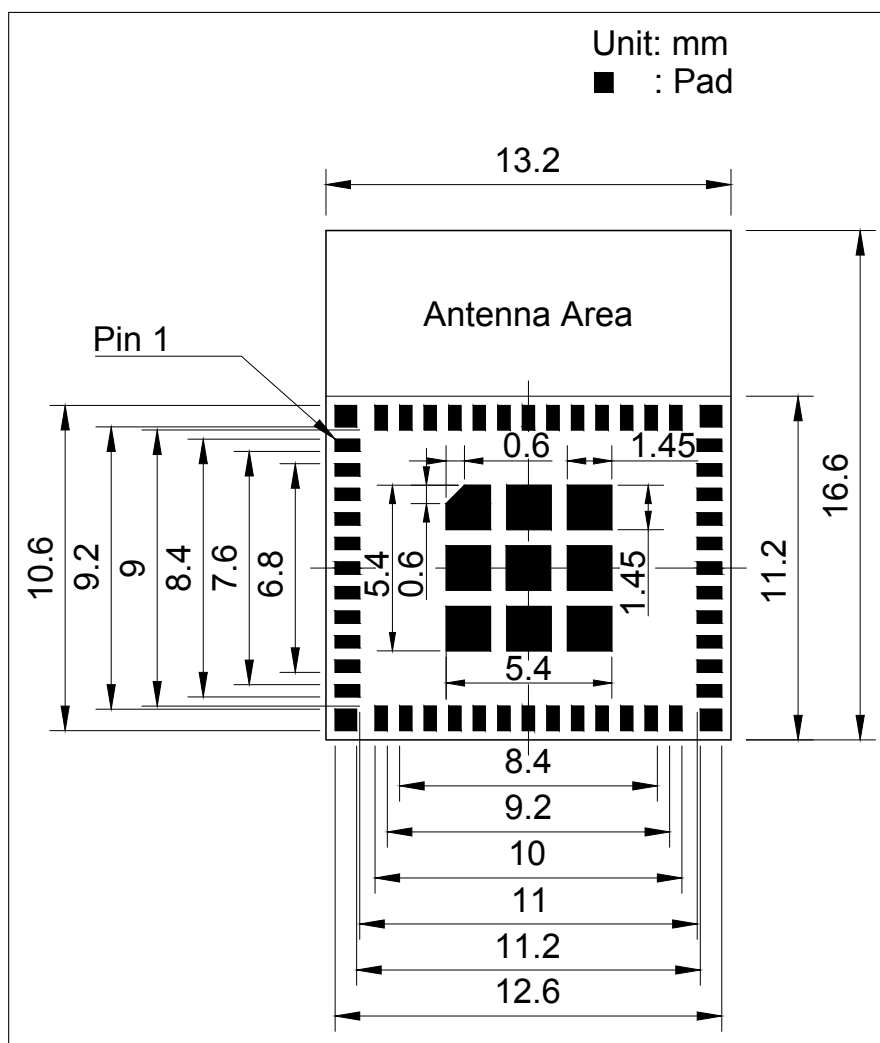
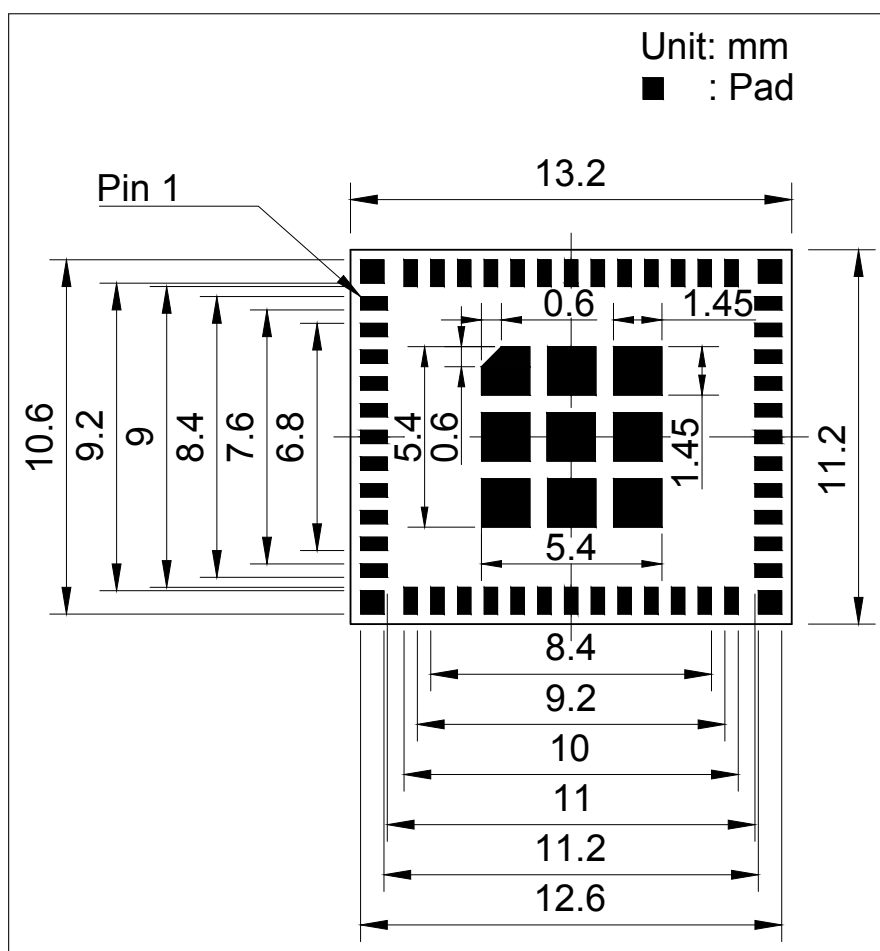

Figure 14: ESP32-PICO-MINI-02 Recommended PCB Land Pattern
Figure 15: ESP32-PICO-MINI-02U Recommended PCB Land Pattern
- Figures for recommended PCB land patterns with all the dimensions needed for PCB design. See Figure 14 *ESP32-PICO-MINI-02 Recommended PCB Land Pattern* and Figure 15 *ESP32-PICO-MINI-02U Recommended PCB Land Pattern*.
- Source files of recommended PCB land patterns to measure dimensions not covered in Figure 14 and Figure 15. You can view the source files for ESP32-PICO-MINI-02 and ESP32-PICO-MINI-02U with Autodesk Viewer.